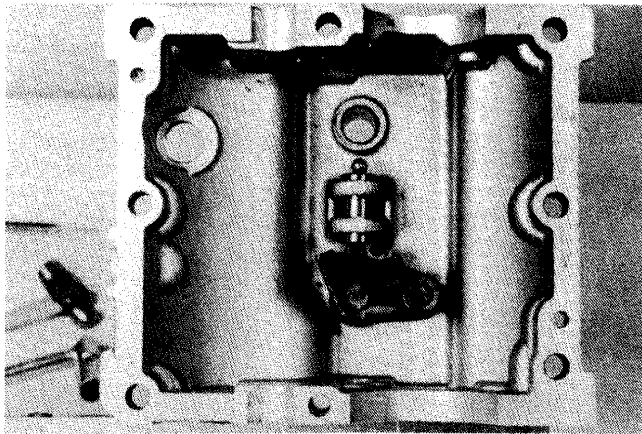

FIGURE 8
2. Install the interlock sleeve, balls, spring and spacer, and position transmission half as illustrated in Figure 8.